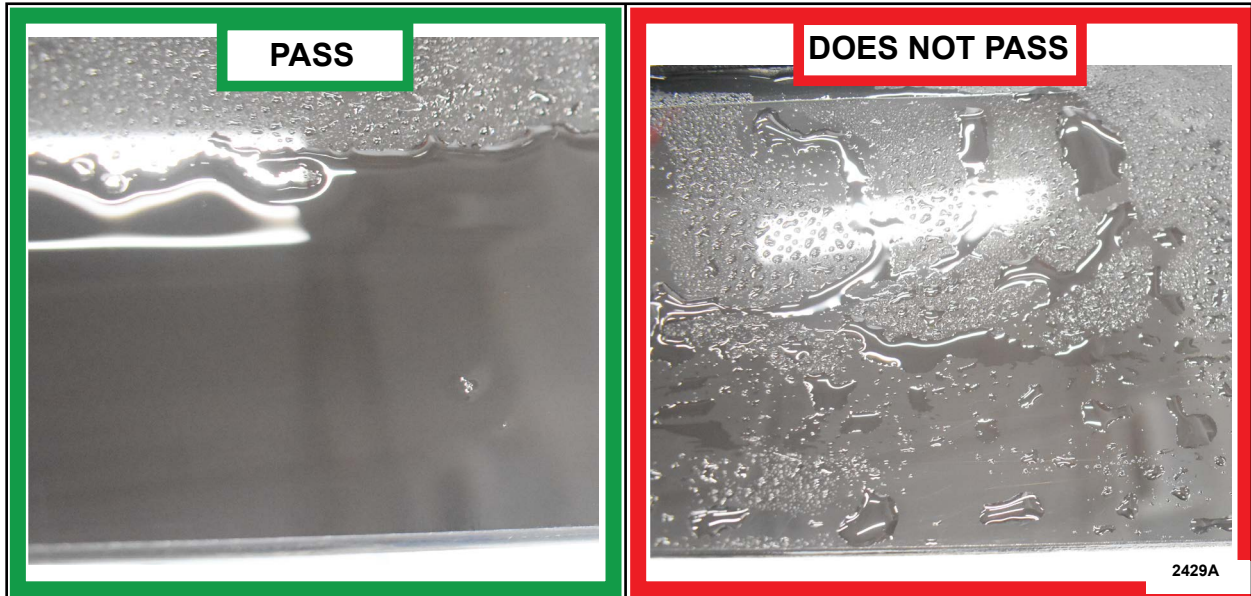

FIGURE 8
11. Look for evidence of beading while spraying water on the panoramic roof panel. See Figure 8. Were signs of beading evident?